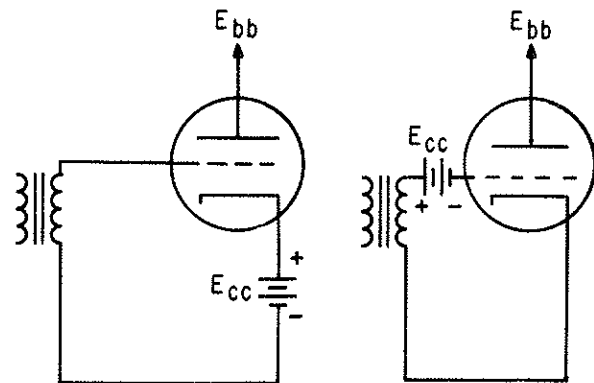

Figure 1-17.—Basic biasing of a triode.
**GRID BIAS** is a steady, direct voltage that is placed at some point in the external circuit between the grid and cathode. It may be in the cathode leg or the grid leg as shown in figure 1-17. It is always in series with the input signal voltage. In each of the circuits in figure 1-17,  $E_{cc}$  makes the grid negative with respect to the cathode because of the negative terminal being
Let's assume that the bias voltage in figure 1-17 is -6 volts. Also, let's assume that the peak-to-peak signal voltage from the transformer is 6 volts. Each of these voltage waveforms is shown in figure 1-18. From past experience you know that voltages in series **ADD**. Figure 1-18 has a table of the instantaneous values of the two voltages added together. The waveforms are drawn from these values.